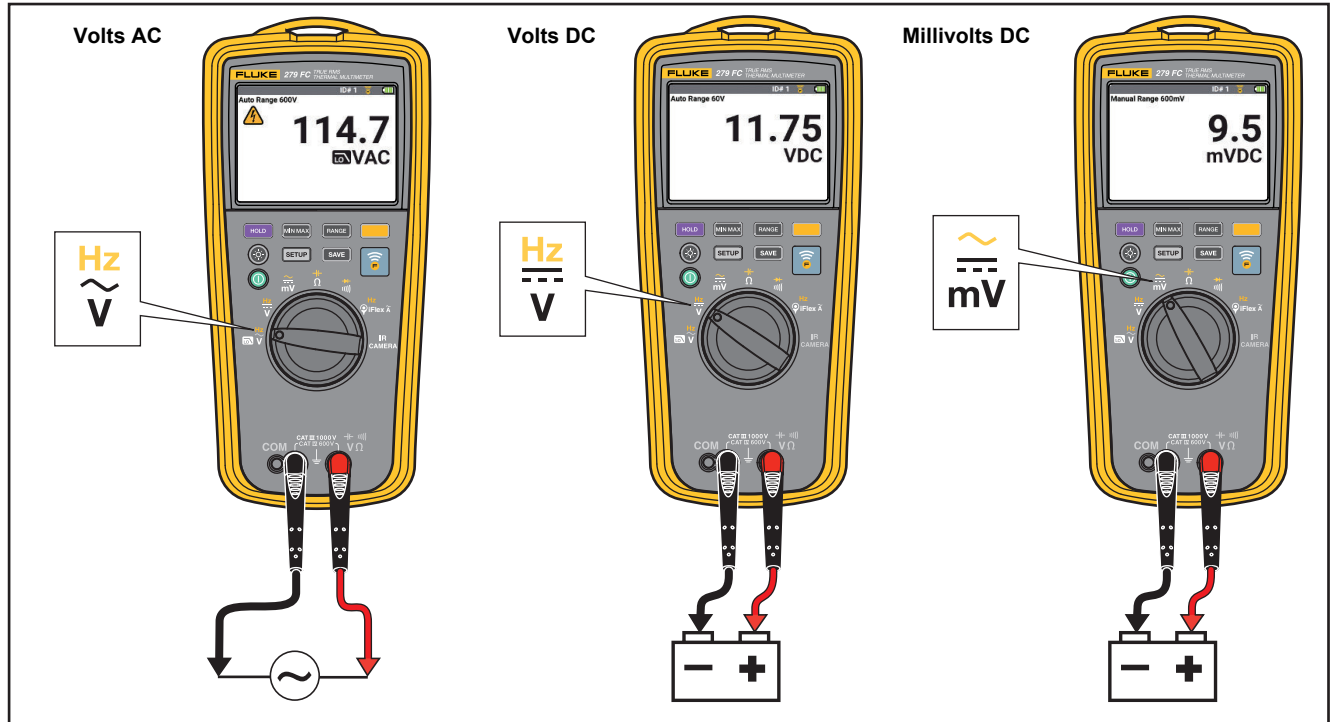

Figure 4. AC and DC Voltage Measurements
- AC and DC Voltage Measurements. See Figure 4.
1. Turn the rotary dial to $\tilde{\text{mV}}$. See Figure 4.